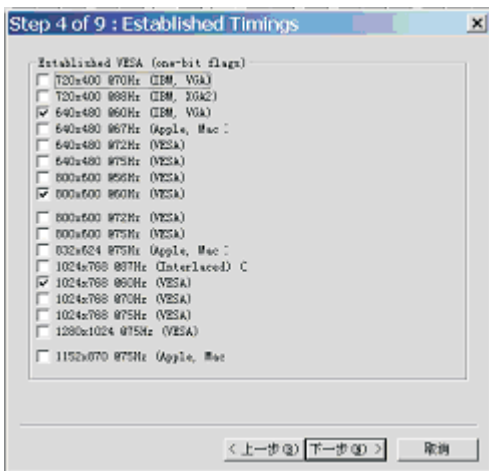

Fig. 17
3. Click Next , bring up Fig. 17.